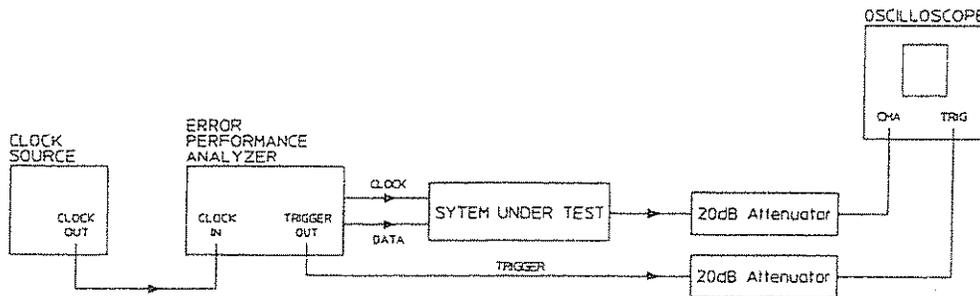

Figure 5-7. To Measure rms and pk-pk Jitter of a System Under Test
1. Connect the HP 71600B Series pattern generator TRIGGER OUT, CLOCK OUT and DATA OUT ports as shown in Figure 5-7.